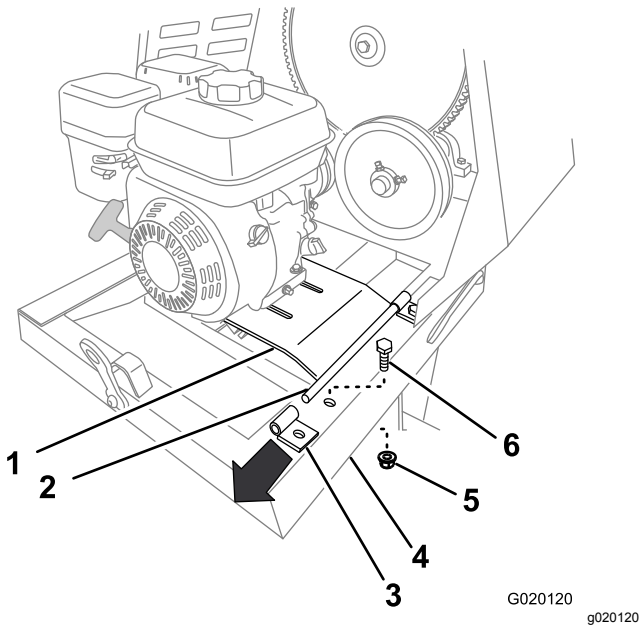

Figure 53
- Remove the bolt and nut that secure the rear bracket for the engine deck hinge to the frame of the machine (Figure 53).
- Lift up the rear edge of the engine deck and remove the hinge bracket (Figure 53).
6. Secure the rear bracket to the frame of the machine using the bolt and nut (Figure 53) removed in step 8 of Removing the Engine (page 36).